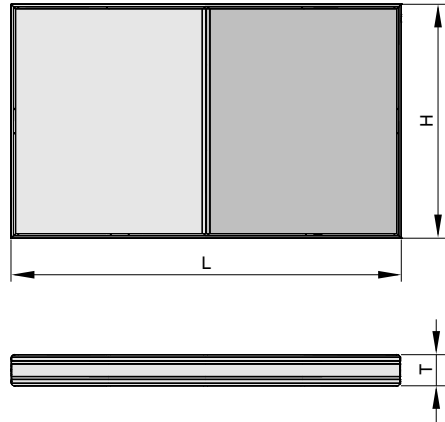

Fig. 25: Splitter MK
- Recommended fixing points and distances for screw fixing. Screw-fix the splitters on both L sides. For intermediate lengths L, use the number of screws (n) for the next length and position them in the middle according to Fig. 25.